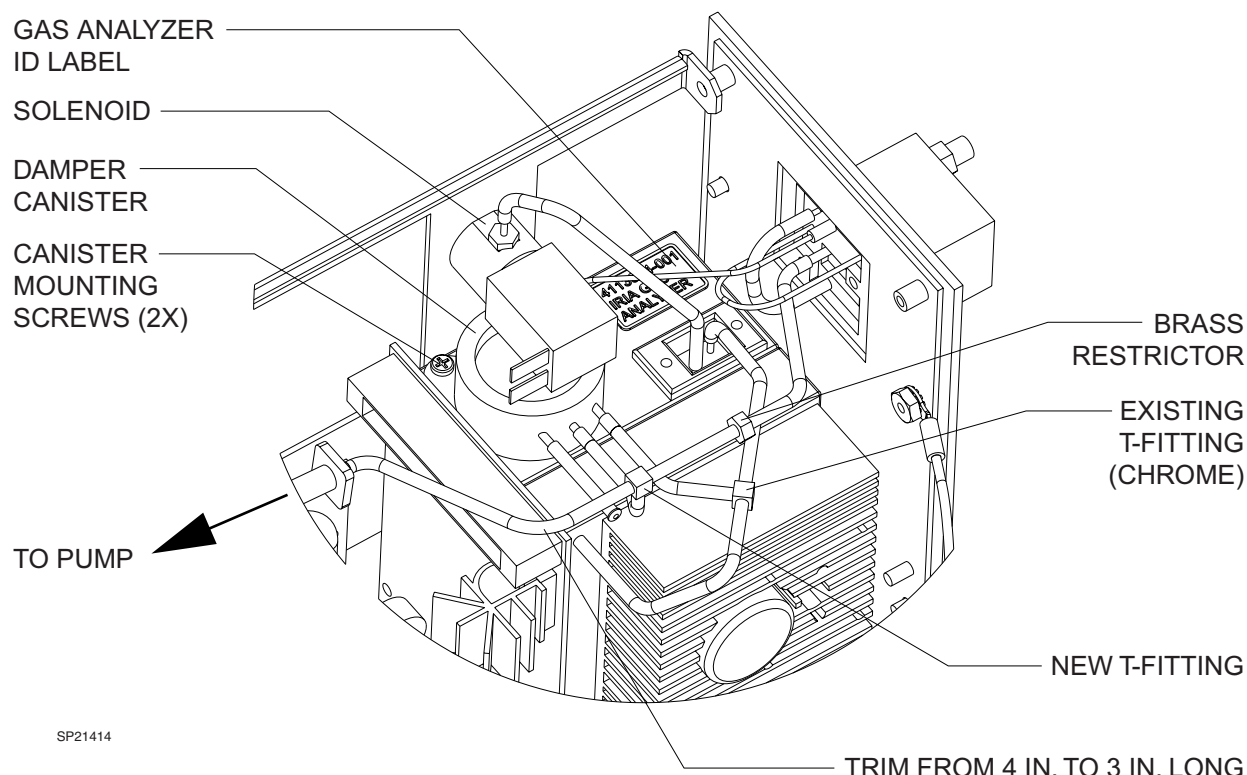

FIGURE 17. Gas Analyzer Tube Routing
- 7.13 Attach a new IRIA gas analyzer ID label P/N 4116621 to the top right front corner of the IRIA as shown in Figure 17.